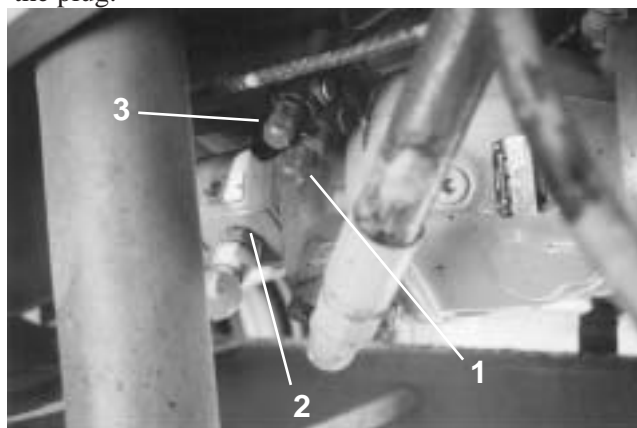

Figure 28 Pumps
3) To make an adjustment, use a 17mm wrench to remove protective cap from set screw. The standby pressure adjustment is the higher adjustment of the two adjustments at the rear of the pump (Fig 28, Ref 3). Loosen the jam nut on the rear pump and turn the set screw until the pressure reads 450 psi on the gage. Replace protective cover once correct pressure is set. Tighten the jam nut. Shut the engine off.